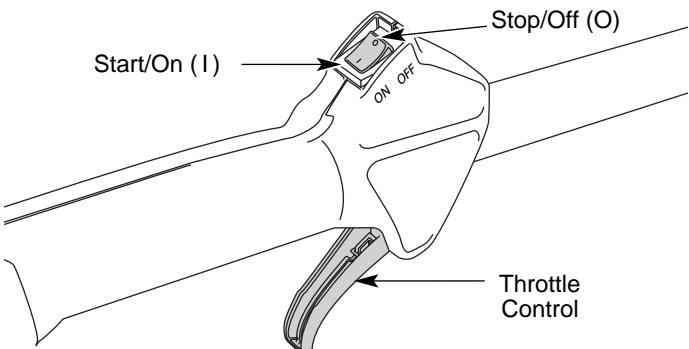

Fig. 9
- NOTE: There is no need to turn the unit on. The On/Off Stop Control is in the ON (I) position at all times (Fig. 9).
2. Press and hold On/Off Stop Control in the OFF (O) position until engine comes to a complete stop (Fig. 9).